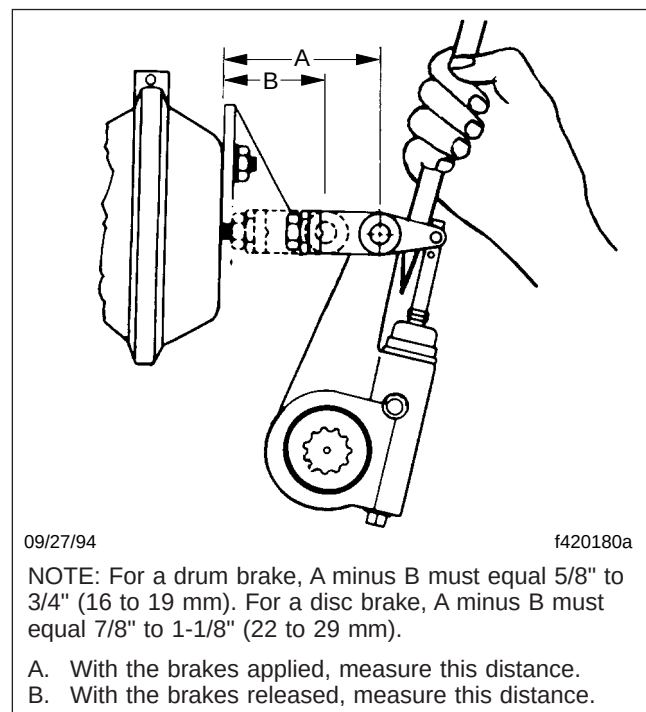

Fig. 7, Measuring Free-Stroke
- 3.1 With the brakes fully released, measure the distance from the bottom of the brake chamber to the center of the large clevis pin. See Fig. 7, Ref. A.
- 3.2 Use a pry bar to move the slack adjuster, applying the brakes. Again, measure the distance from the bottom of the brake chamber to the center of the large clevis pin. See Fig. 7, Ref. B.
- 4.1 With the brakes fully released, measure the distance from the bottom of the brake chamber to the center of the large clevis pin. See Fig. 7, Ref. A.
- 4.2 Build air pressure to 100 psi (690 kPa). Shut down the engine. Fully apply the brakes, then measure the distance from the bottom of the brake chamber to the center of the large clevis pin. See Fig. 7, Ref. B. The difference between the measurements is the brake chamber stroke.